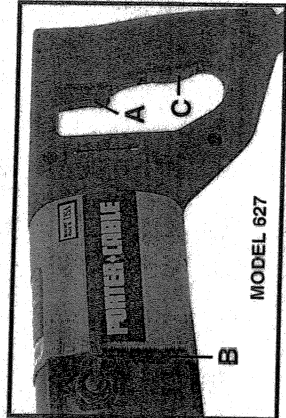

Fig. 2A
MODEL 627 is equipped with a two-speed, slide switch (C) Fig. 2A. For **LOW** speed operation, move the slide switch to the upper position (toward the trigger switch). For **HIGH** speed operation, move the slide switch to the lower position (away from trigger switch).